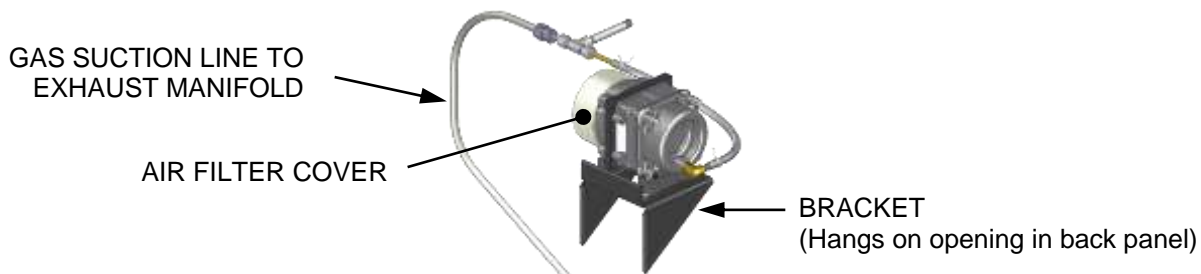

Figure 8-4: Air Eductor Assembly – BMK5000 & 6000
1. Remove the Air Pump's plastic air filter cover and clean or replace the air filter (see Figure 8-4, below).